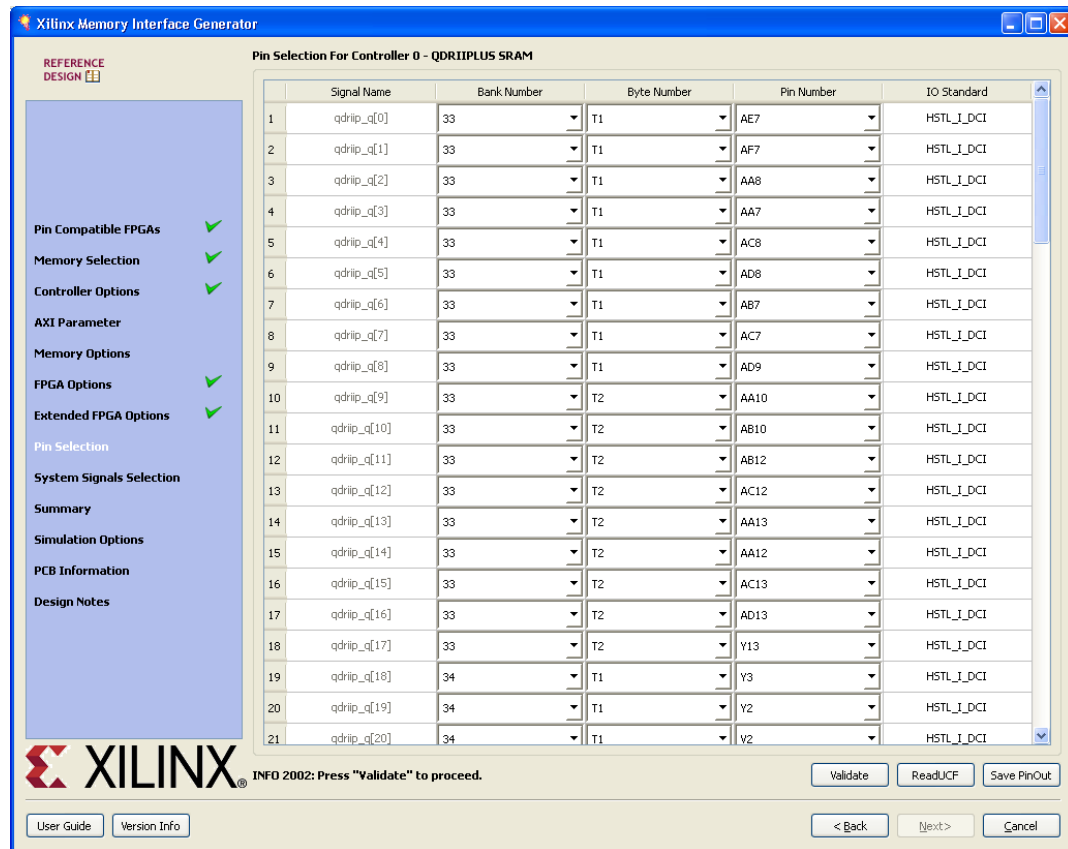

Figure 2-24: Pin/Bank Selection Mode
- Pin/Bank Selection Mode** – This allows you to specify an existing pinout and generate the RTL for this pinout or pick banks for a new design. Figure 2-24 shows the options for using an existing pinout. You must assign the appropriate pins for each signal. A choice of each bank is available to narrow down the list of pins. It is not mandatory to select the banks prior to selection of the pins. Click **Validate** to check against the MIG pinout rules. One cannot proceed until the MIG DRC has been validated by clicking **Validate**.